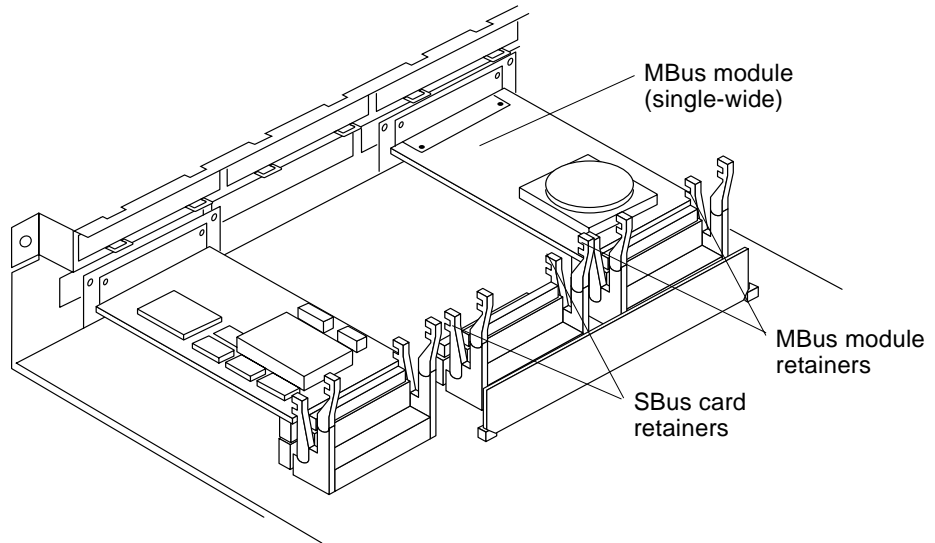

FIGURE 11-5 MBus Module and SBus Card Retainers
5. **Lock the retainer arms over the edge of the MBus module (FIGURE 11-5).**
3. **Unlock the MBus module retainers and the SBus card retainers closest to the MBus slot (FIGURE 11-5).**